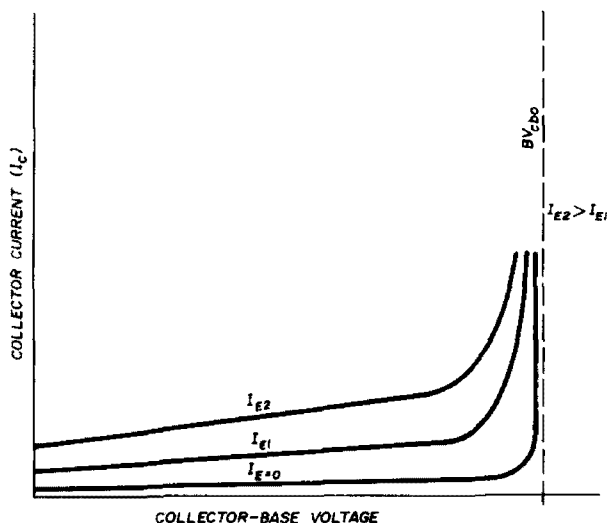

fig. 5. Transistor collector-base breakdown characteristics with the emitter open.
Even if some emitter current is allowed to flow, the breakdown point will still approach BV_{cbo} , but the current increase is not as dramatic as when I_e is zero. Fig. 5 will clarify this. A similar condition exists whenever the base ter-
fig. 5. Symbols used for various mosfets. N-channel, depletion type is shown in (A); n-channel, enhancement-mode type is shown in (B). (C) shows dual-gate, depletion-mode device while (D) shows a diode-protected mosfet.
The basic symbols for the different mosfet types are shown in fig. 5. These symbols signify an n-type channel. However, they can also use a p-type channel - the symbolization is identical with the exception that the substrate arrow must be pointed in the opposite direction. The symbol in fig. 5A refers to a depletion-